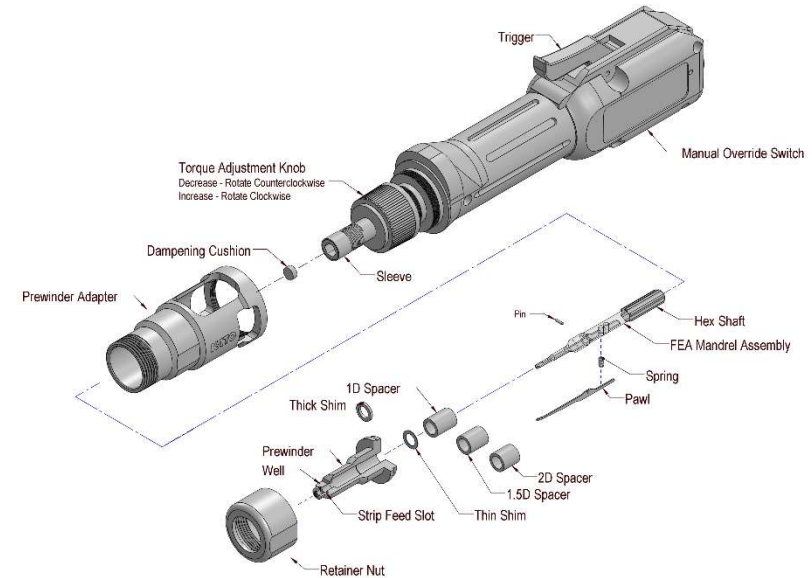

Figure 2
- 1 Dampening Cushion (see Figure 2)